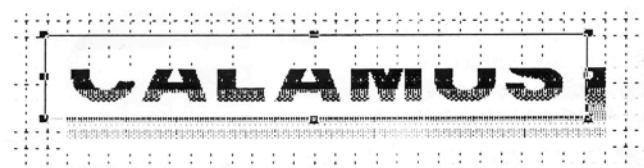

Fig 12. Note, how the greyscale shows through the transparent text.
8). The last action before saving is to place the grey scale box to the back, and you should have graduated grey text (see below fig 12).